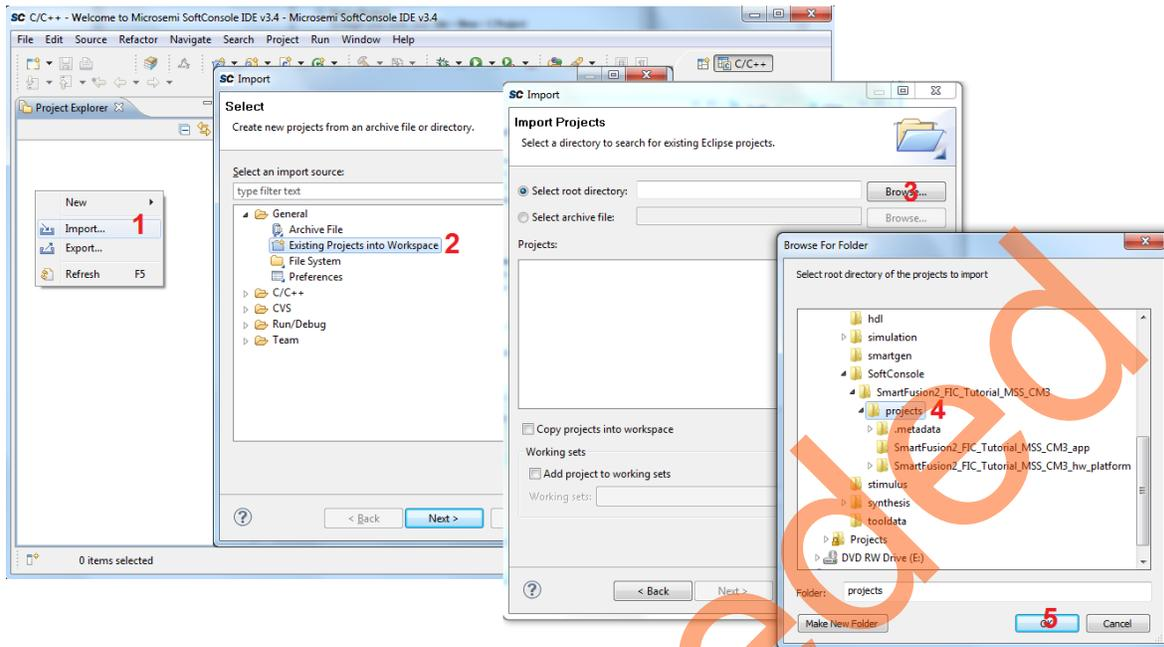

Figure 44 • Importing the Existing Project into Workspace
9. Import the existing project into workspace as shown in Figure 44.
- Navigate to the **SoftConsole** folder and select **projects** folder as shown in Figure 44.